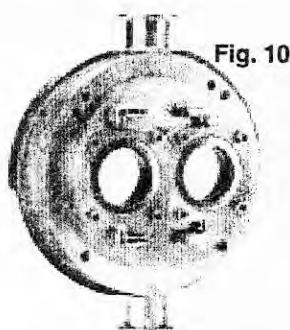

Fig. 10
11. Position the mounting plate (F) on the seal housing (E) once more and tighten the screws (I) by the indicated torque - see Section 6.1
12. Apply liquid sealing compound or PTFE tape to the thread of the liquid inlet bends and screw into the seal housing. The bends must be positioned as in Figure 10.